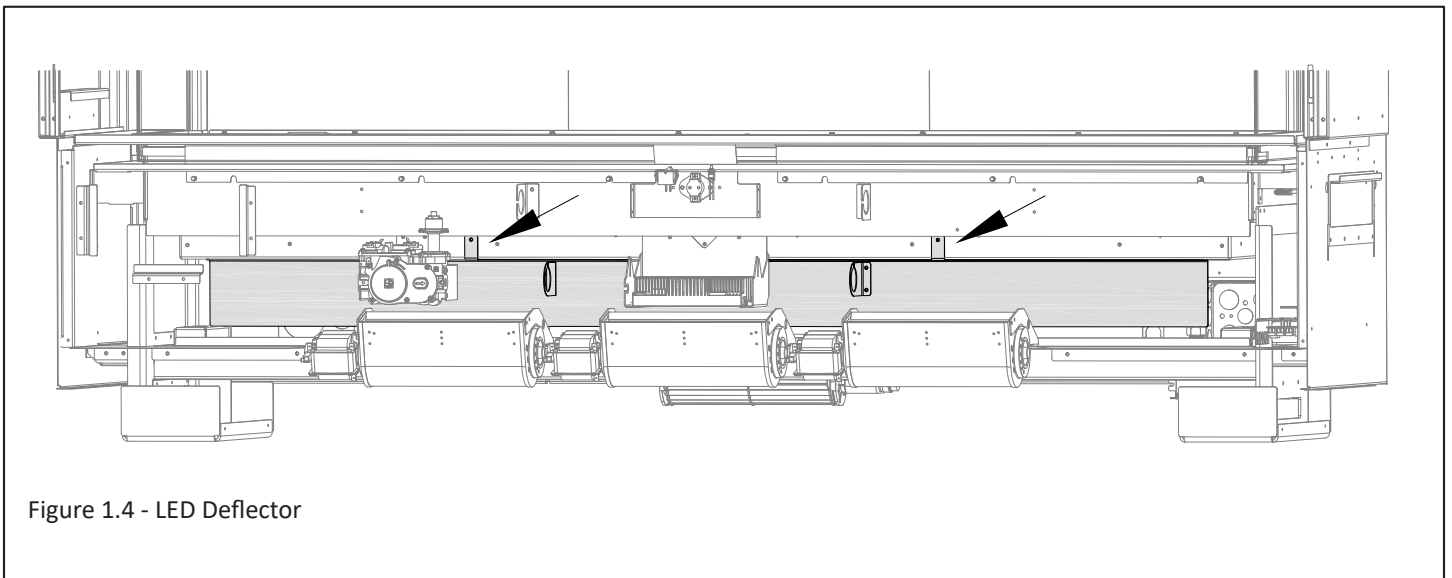

Figure 1.4 - LED Deflector
- You will want to complete this installation before facing material is installed. You will need to remove the front panel of the fireplace to gain access to the bottom of the fireplace. See the fireplace manual for more information. When installing the power vent wire harness you may find it helpful to remove the LED deflector temporarily. See Figure 1.4. There are (2) sheet metal screws that secure it to the bottom of the control board assembly. Reinstall deflector after wiring is complete.